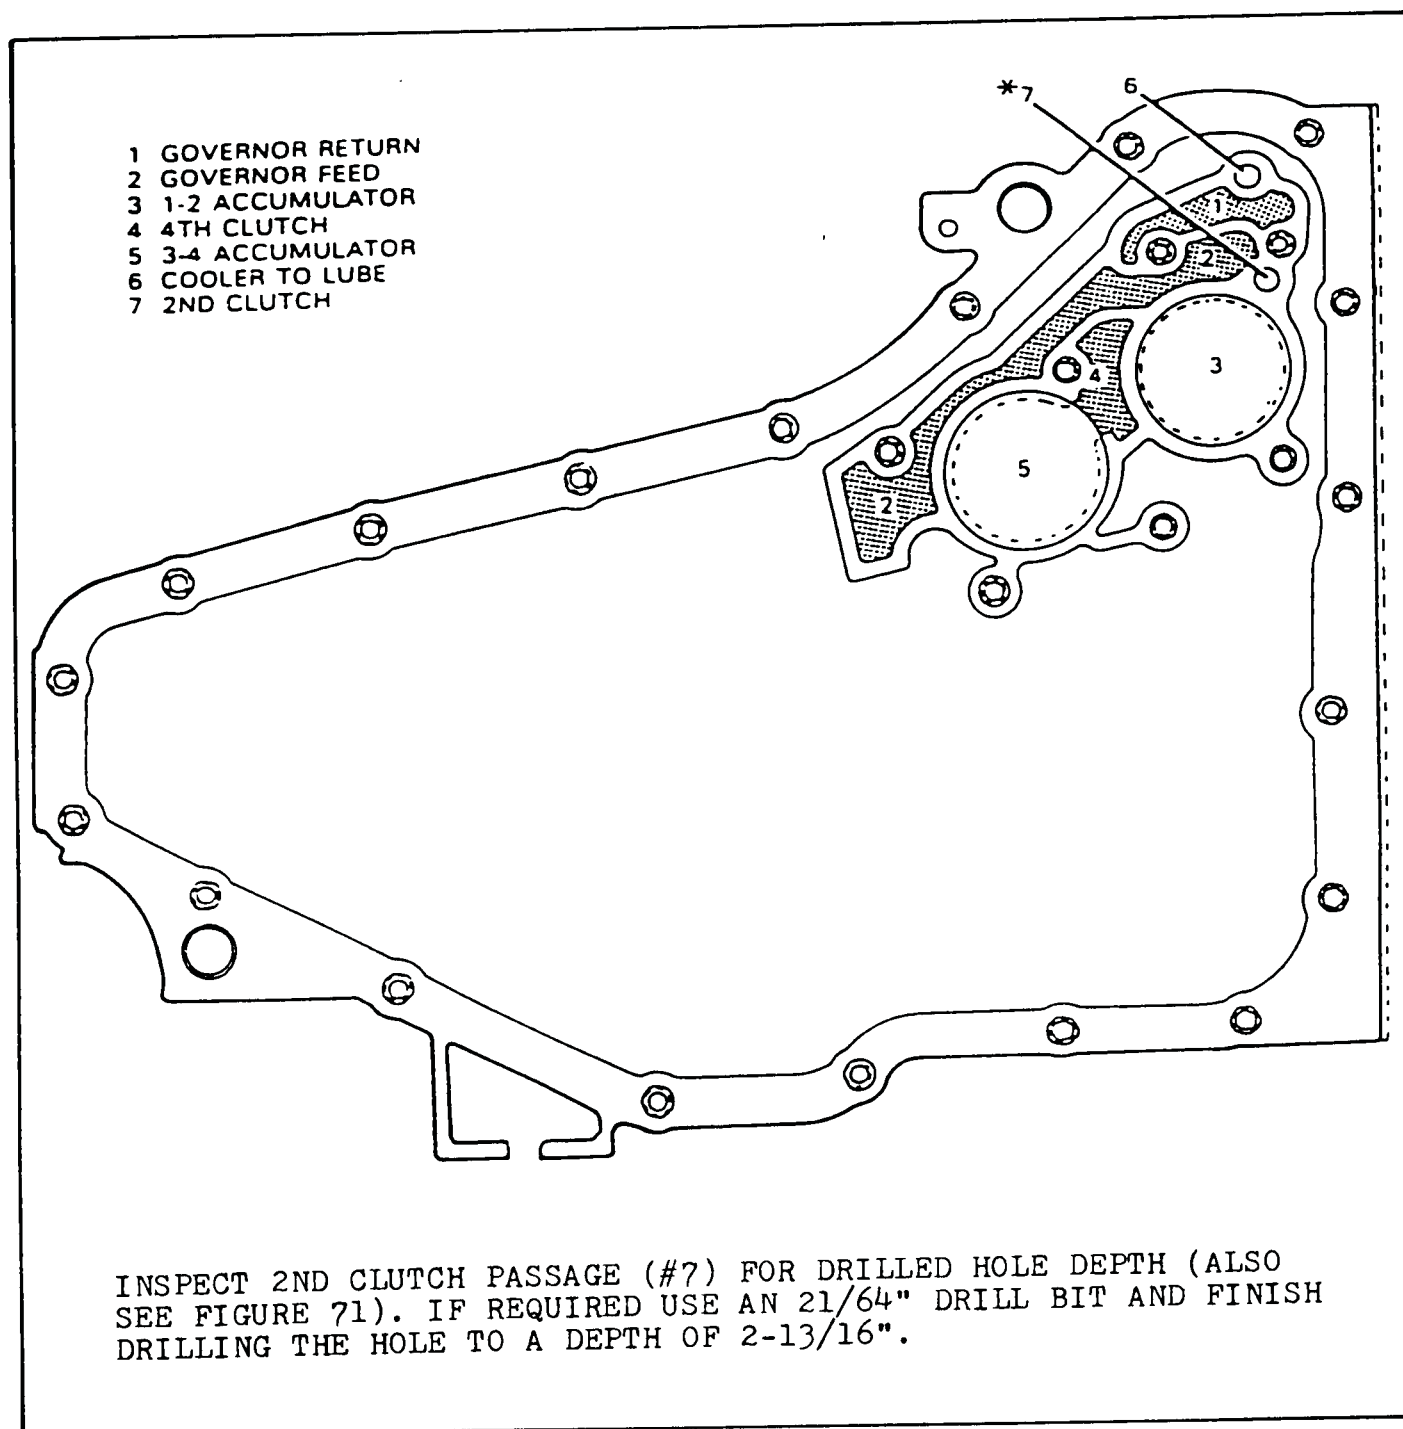

Figure 70
- CORRECTION: To repair this condition inspect the 2nd feed passage, #7 in Figure 70, for blockage or incomplete drilling operation. To perform this inspection, remove the trans-axle oil pan, filter, accumulator cover (With feed pipes and retainer), accumulator cover spacer plate and gaskets. Inspect the 2nd clutch passage by measuring the depth of the hole, which should be a minimum of 2-13/16" as shown in Figures 70 and 71.